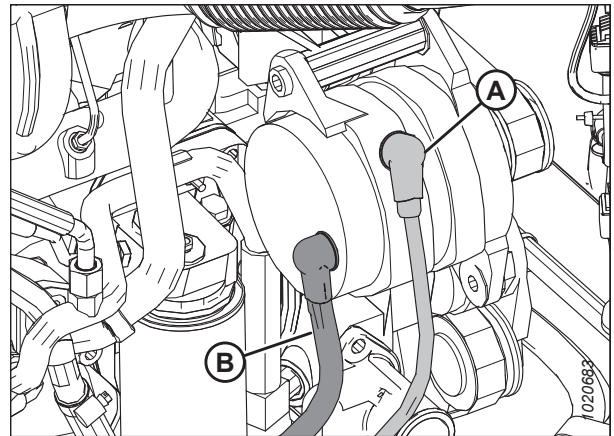

Figure 5.32: Alternator
- Do **NOT** short across battery or alternator terminals or allow battery positive (+) cable (B) or alternator wire to become grounded.
- If wires are disconnected from the alternator, refer to Figure 5.32, page 335 to ensure proper connection.